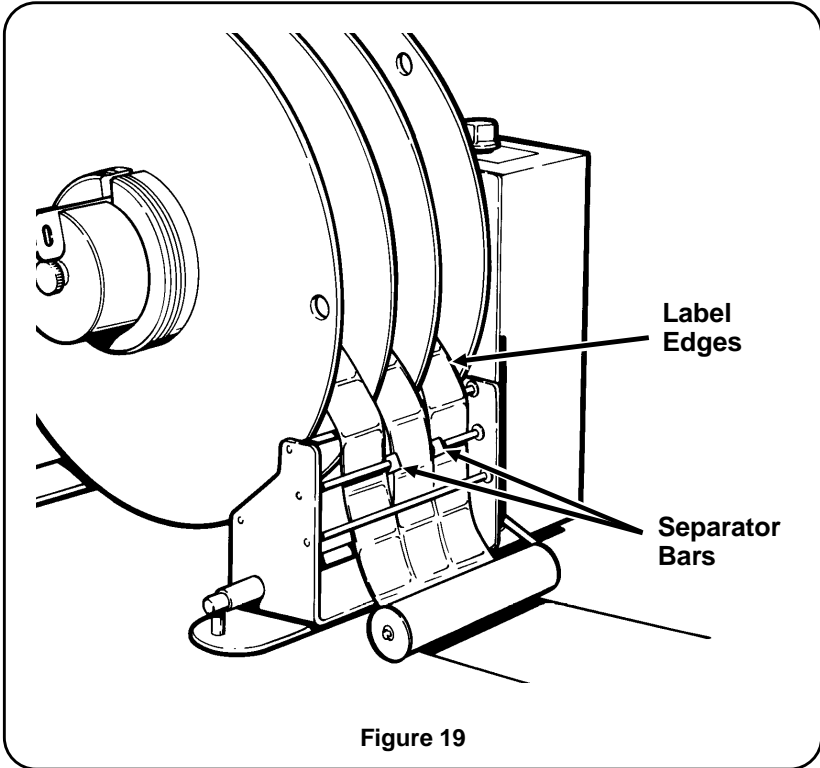

Figure 19
21. Verify that the separator bars are located between the strip as shown in Figure 19.